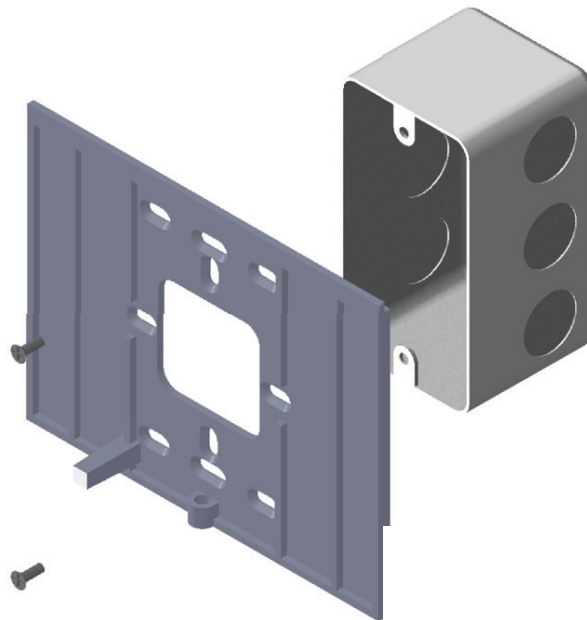

Figure 43: Installing the Mounting Plate for an EM-100 Controller
1. Install a junction box and connect the EM-100 controller's mounting plate to it at the required wall location, as shown in Figure 43.